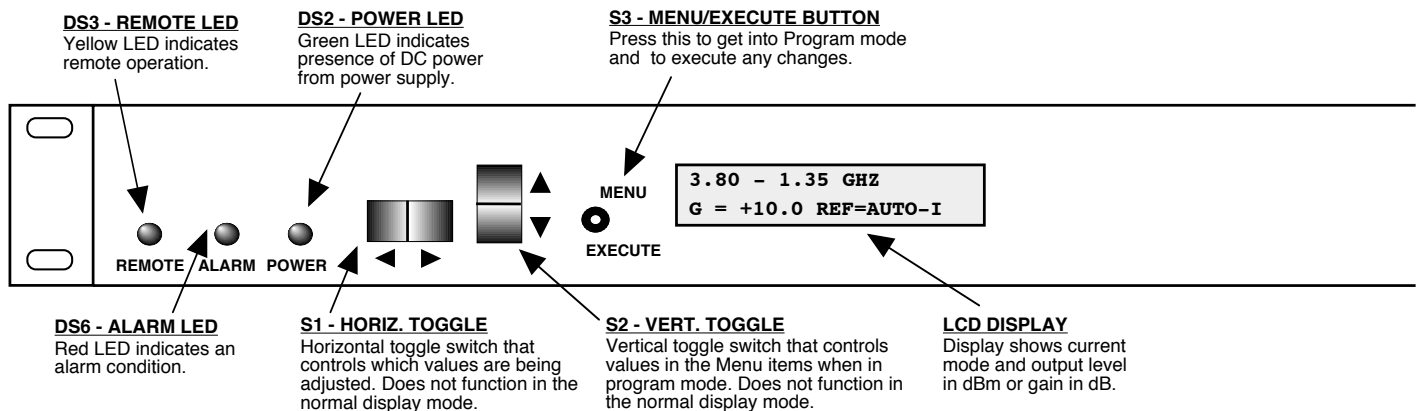

FIGURE 2.2 3116-3442 Front Panel Controls and Indicators
Figure 2.2 shows the front panel controls and indicators.
6. Be sure DS2 (green, DC Power) is on and DS6 (red, Alarm) is off (Figure 2.2).
Alarm indications appear on the LEDs (see Figure 2.2).